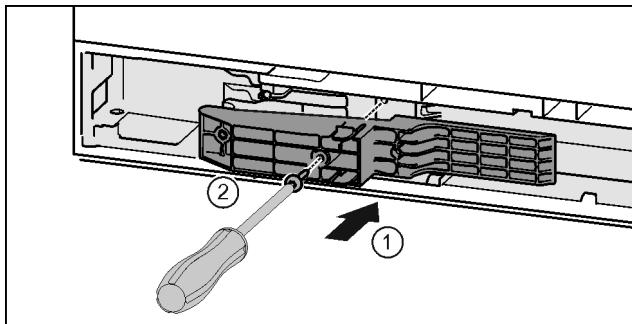

Fig. 45 *
- ▶ Install the adapter on the handle side in the slot. Fig. 45 (1)*
- ▶ Tighten the screw with a T15 screwdriver. Fig. 45 (2)*